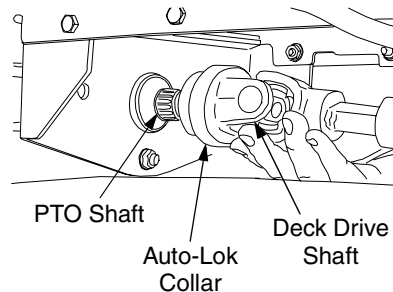

Figure 45
13. Slide the deck drive shaft fully onto the PTO shaft of the tractor (See Figure 45). The auto-lok collar of the drive shaft should snap into the locked position when the shaft is properly positioned on the PTO shaft.